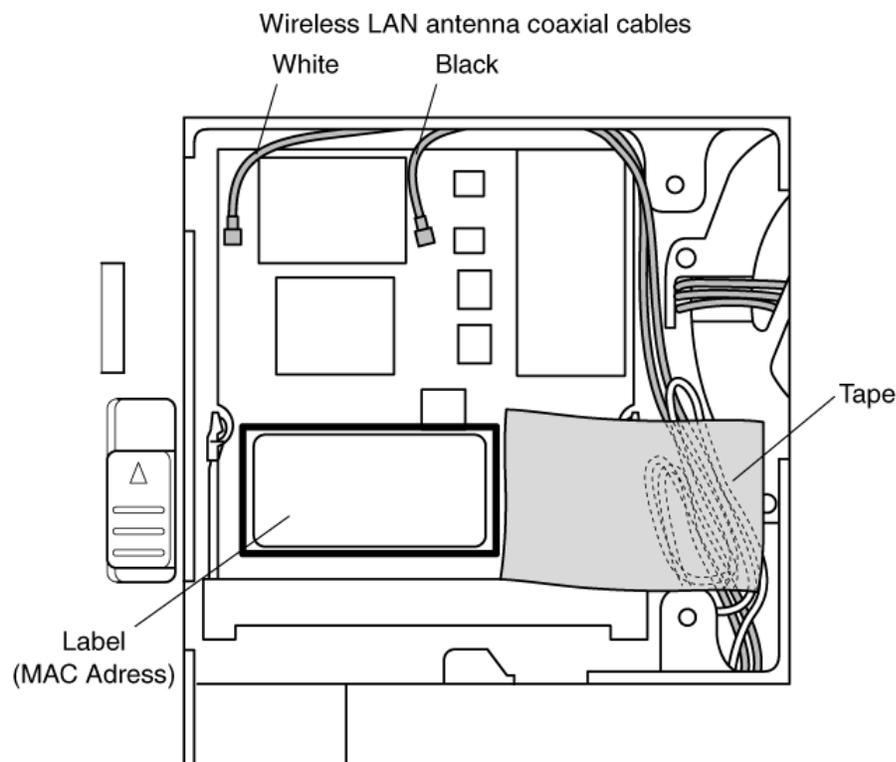

Figure 4-12 Connecting the Wireless LAN cables
**CAUTION:** Make sure the cables lie inside the guide. Be careful not to damage or pinch the cables when you seat the wireless LAN card. Refer to Figure 4-12.